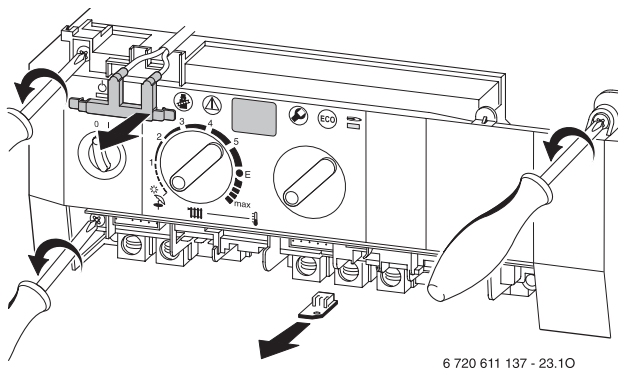

Fig. 56
- ▶ Remove two top fixing screws from the control box. Refer to fig. 56.